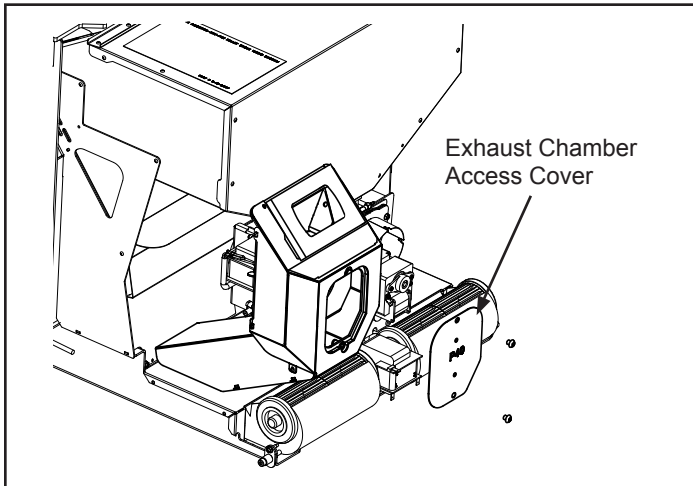

Figure 2.8
- j. Remove the exhaust chamber access cover on the right rear of the insert, Figure 2.8